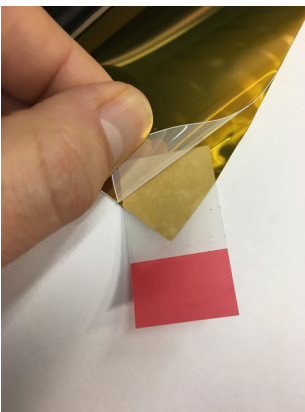

Figure 01
- › Lift the protective film at the strip position so that it can be easily removed. (FIG. 01)